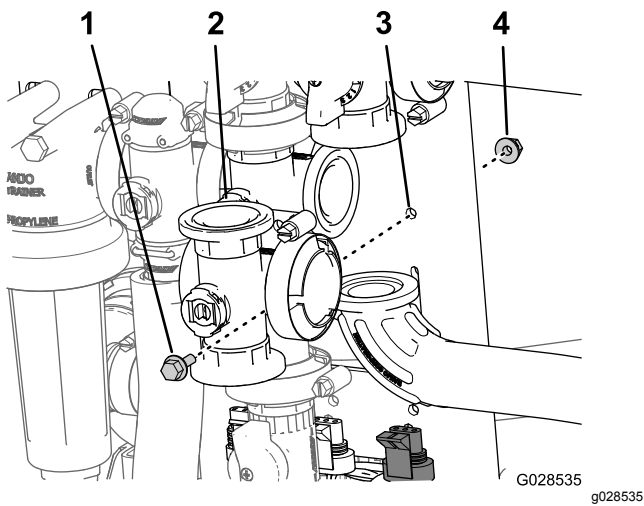

Figure 93
2. Remove the flanged-head bolt and flanged locknut that secure the master boom valve to the valve mount and remove the valve manifold from the machine (Figure 93).